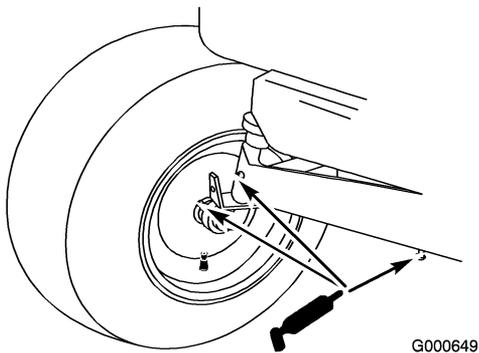

Figure 29
1. Lubricate the front wheels and spindles until grease begins to ooze out of the bearings (Figure 29).
2. Lubricate the front axle pivot (Figure 29).